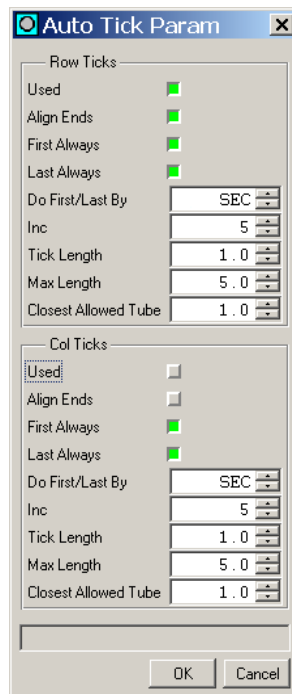

Figure 63. Auto Tick Param Dialog
- STEP 8:** In the *Col Ticks* section of the *Auto Tick Param* dialog, disable (gray) *Used*. The remaining settings in this section may be disregarded. The *Auto Tick Param* dialog should now look like Figure 63.